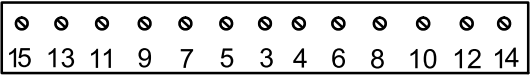

Figure 24
- 6. Following the order in Figure 24, tighten the screws to 25.4 N·m (225 in-lb).